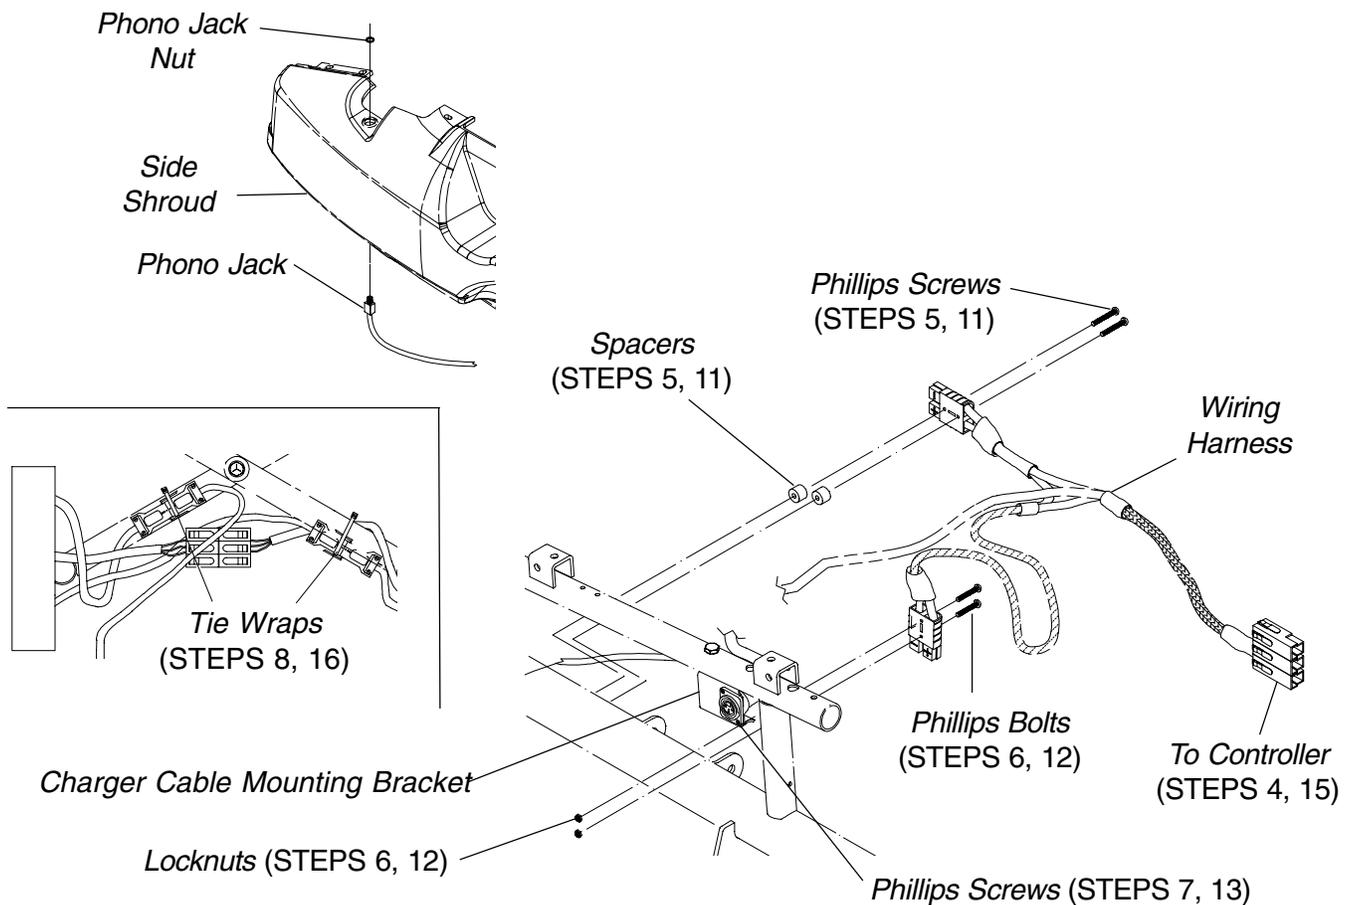

FIGURE 18 - REPLACING WIRING HARNESS - 16, 18, AND 20-INCH WIDE MODELS
**REPLACING WIRING HARNESS (FIGURE 18)**
5. Remove the two (2) phillips screws and spacers that secure the rear battery connector to the wheelchair frame.
6. Remove the two (2) phillips bolts and locknuts that secure the front battery connector to wheelchair frame.
7. Remove the two (2) phillips screws that secure the wiring harness to the charger cable mounting bracket.
11. Position the rear battery connector of the new wiring harness on the wheelchair frame as shown in FIGURE 18 and secure with the two (2) phillips screws and spacers.
12. Position the front battery connector on the wheelchair frame as shown in FIGURE 18 and secure with the two (2) phillips bolts and locknuts.
13. Secure the wiring harness to existing charger cable mounting bracket on the seat frame with the two (2) phillips screws.